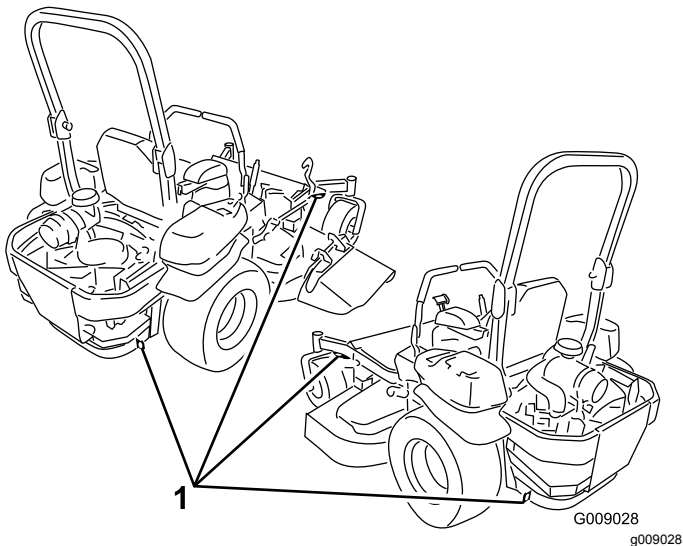

Figure 29
5. Use the metal tie-down loops on the machine to securely fasten it to the trailer or truck with straps, chains, cable, or ropes (Figure 29).